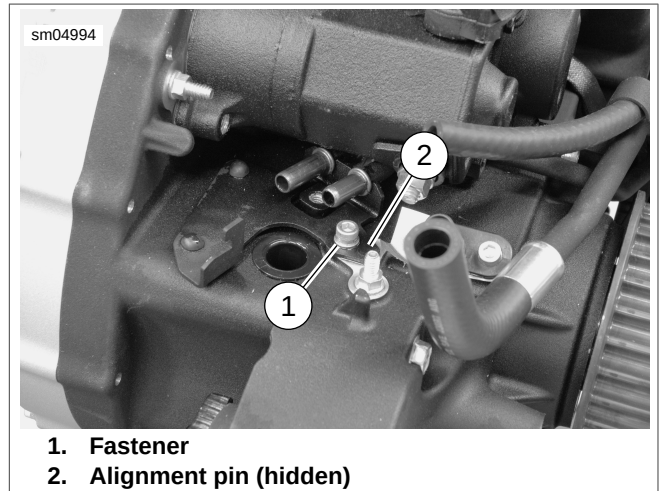
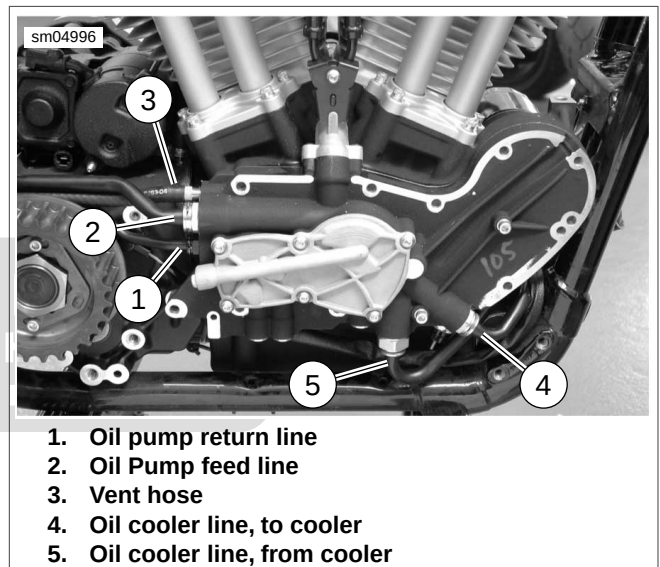
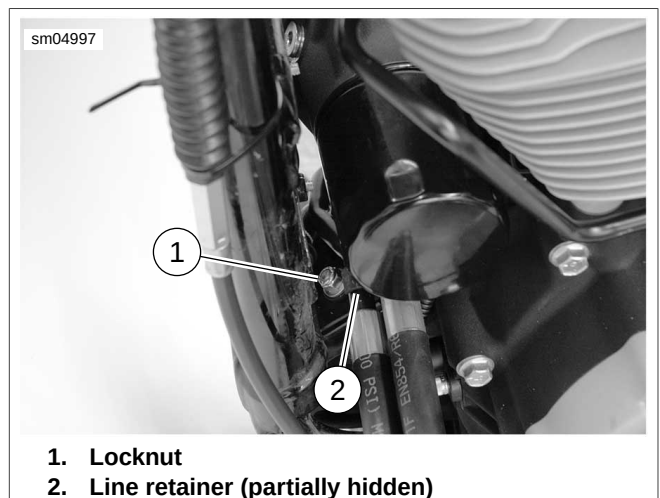

Figure 3-36. Rigid Oil Line Retainer
Figure 3-37. Oil Pump Lines
Figure 3-38. Oil Cooler Line Retainer
2. See Figure 3-36. Remove fastener (1) and raise retainer until alignment pin (2) is clear of bore in crankcase. Roll retainer out from beneath rigid oil lines to remove.
3. See Figure 3-37. Remove return oil line (1) from gearcase cover using OIL LINE REMOVER, 3/8 IN. (Part No. HD-49096).
5. Remove feed oil line (2) from gearcase cover using OIL LINE REMOVER, 1/2 IN. (Part No. HD-46503).
6. Disconnect vent hose (3) from fitting on oil pump.
7. See Figure 3-38. Remove locknut (1) and washer. Remove oil cooler line retainer (2) from lines.
8. See Figure 3-37. Release each oil cooler line (4, 5) from bottom of gearcase cover using OIL LINE REMOVER, 1/2 IN. (Part No. HD-46503).
- 3. See Figure 3-37. Connect oil cooler lines (4, 5) to lower gearcase cover. Ensure each is securely held by the retainer clip.
- 4. See Figure 3-38. Install oil cooler line retainer (2) and tighten nut (1) securely.
- 5. See Figure 3-37. If removed, place return line (1) on engine and install electric starter. See 6.13 STARTER.
- 6. Connect vent (3), feed oil (2) and return oil (1) lines to oil pump body and cam support. Ensure each is securely held by the retainer clip.
- 7. See Figure 3-36. Roll retainer under rigid lines at rear of crankcase and orient so alignment pin (2) is in bore in case. Ensure flanges on lines are on the manifold side of the retainer. Secure with screw (1) and tighten to 84-108 **in-lbs** (9.5-12.2 Nm).